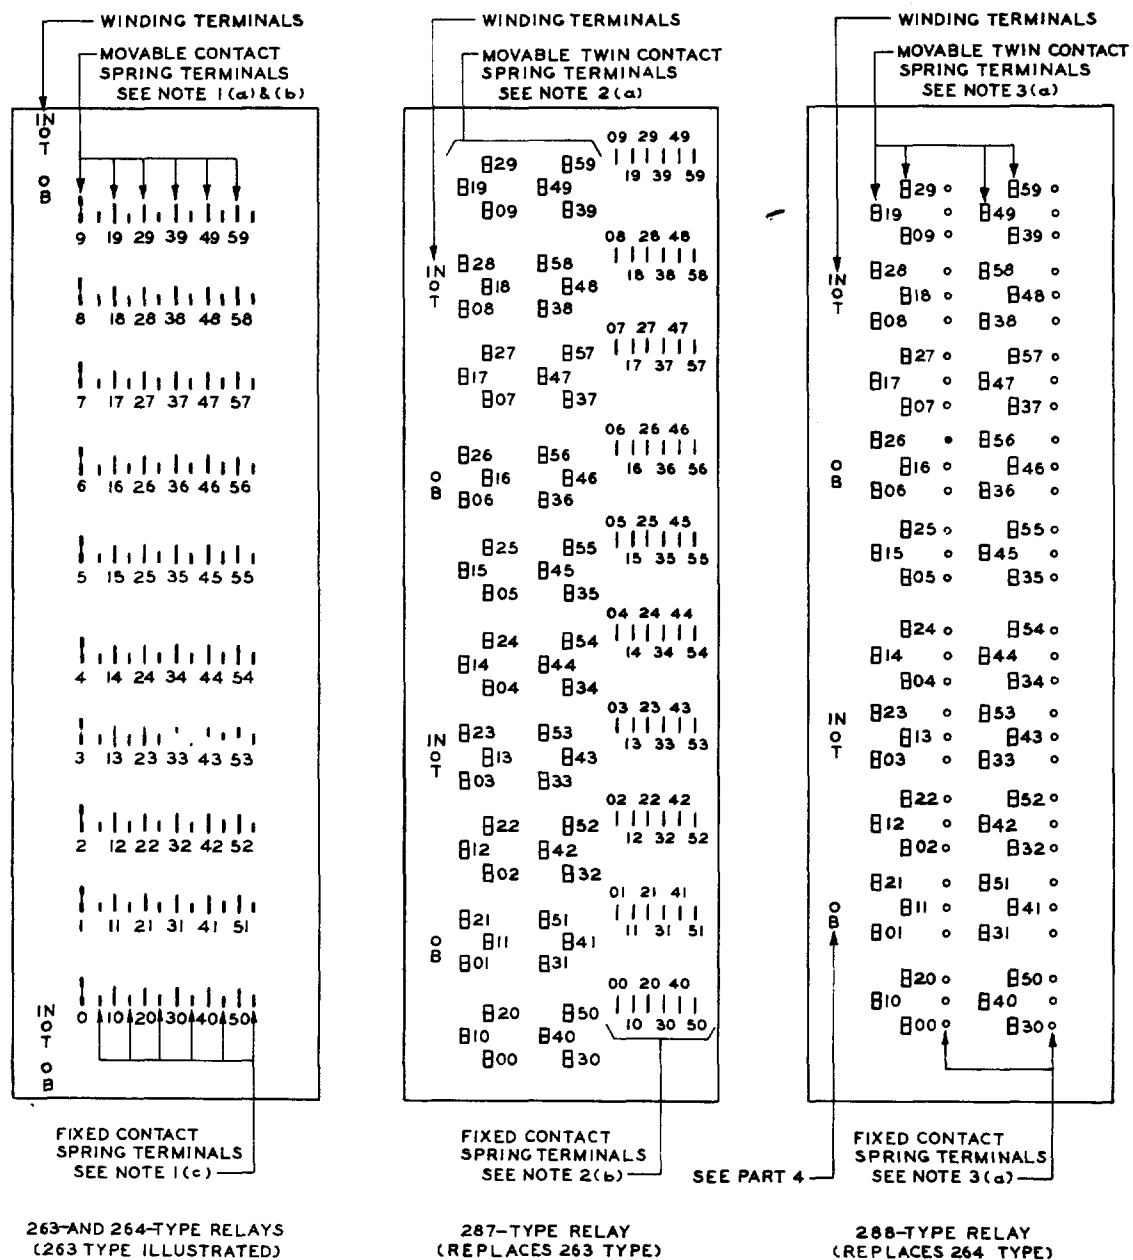

Fig. 2 — Terminal Arrangement Viewed From Wiring Side
5.01 Connections removed from a 263- or 264-type relay should be transferred to the replacing 287- or 288-type relay as described in the following paragraphs. Fig. 2 shows the terminal arrangement of 287- and 288-type relays compared to the arrangement of terminals on 263 and 264 types. Referring to Fig. 2 and the associated notes, the movable contact springs of 263-type relays are arranged for horizontal strapping while on 287-type relays fixed contact springs are arranged for horizontal strapping.
NOTES FOR FIG. 2
5.06 As shown in Fig. 2, the location of the winding terminals on 287- or 288-type relays is different from that of corresponding terminals on 263- and 264-type relays. Where skimmers to be connected to winding terminals on 287- and 288-type relays are too short, splice them using a straight splice insulated with varnish-impregnated sleeving per KS-7851.